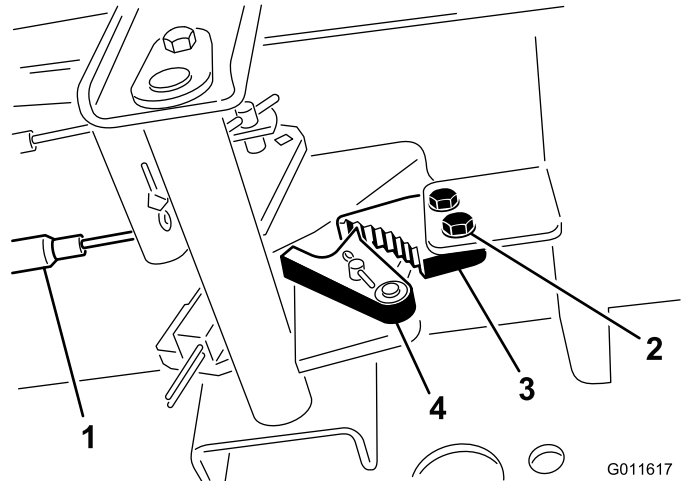

Figure 60
1. Loosen the 2 screws securing the parking brake pawl to the frame (Figure 60).
2. Press the parking brake pedal forward until the brake detent completely engages on the brake pawl (Figure 60).